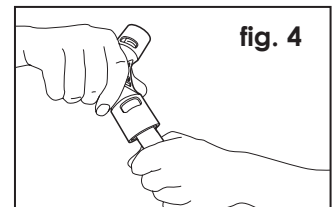

fig. 4
**16 mm / 20 mm / 25 mm (fig. 4)**